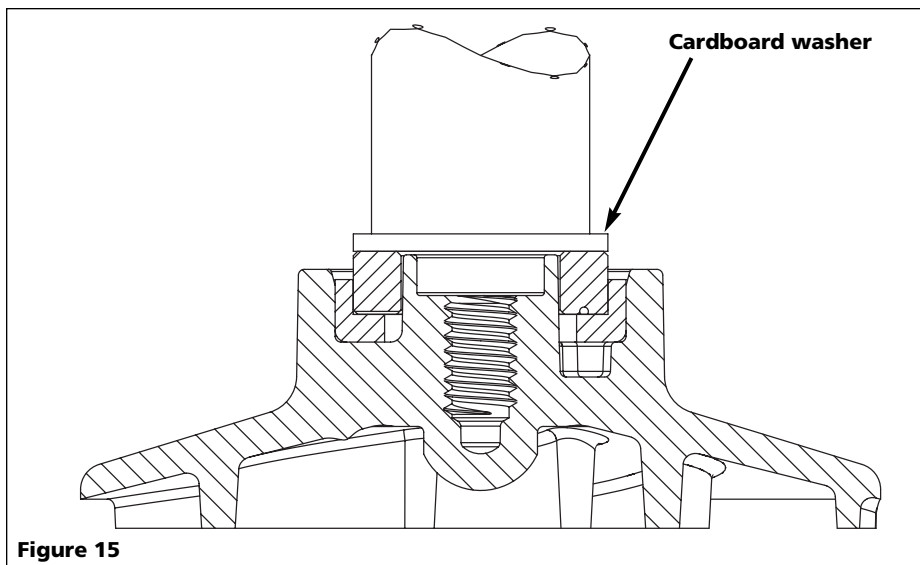

Figure 15
4. Place the impeller face down on a solid surface. Place the Seal Seat and Rubber Seat Ring in the back of the impeller. Place cardboard washer between a 3/4" pipe or socket and push seal in place. Do not use a hammer to install, as ceramic face is easily damaged (See Figure 15).